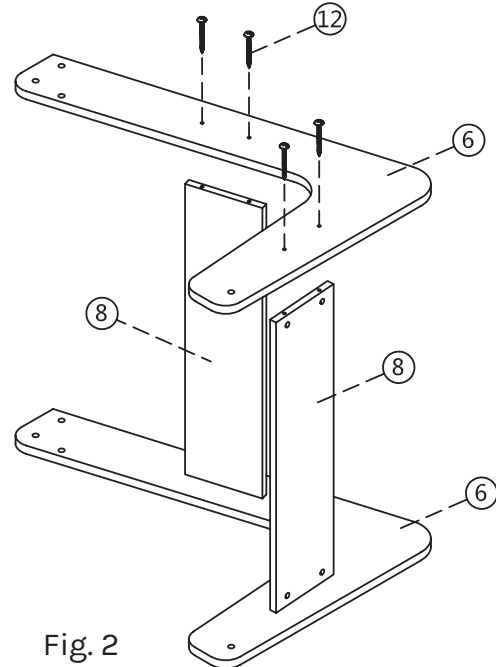

Fig. 2
2. Connect the 2x end legs (6) to 2x support beams (8) using 8x screws 1/8"x1-3/4" (12). (Fig.2)